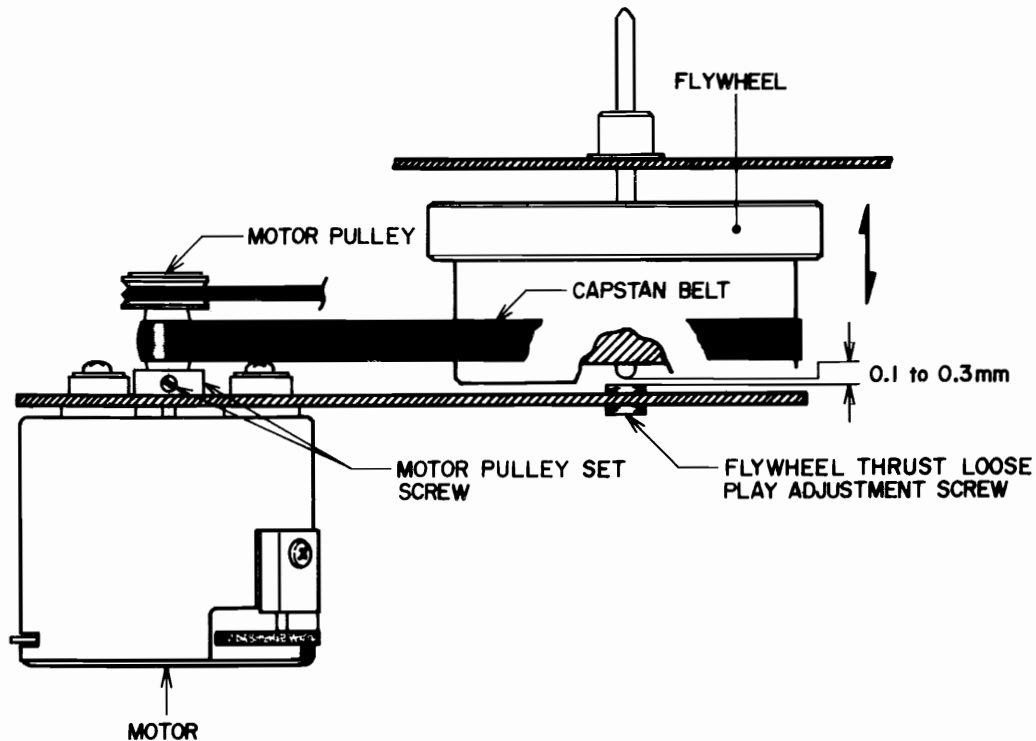

Fig. 7
5. FLYWHEEL THRUST LOOSE PLAY ADJUSTMENT (Refer to Fig. 7)